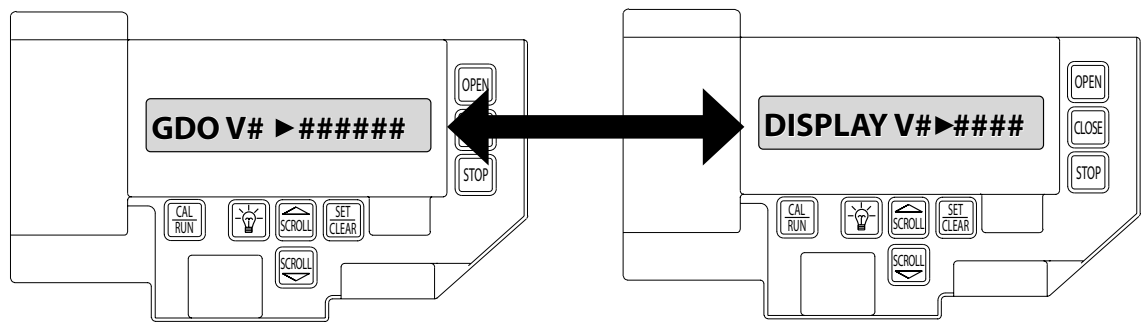

Fig. 2
- 2) Press SCROLL until display reads "GDO V# > #####." Fig. 2